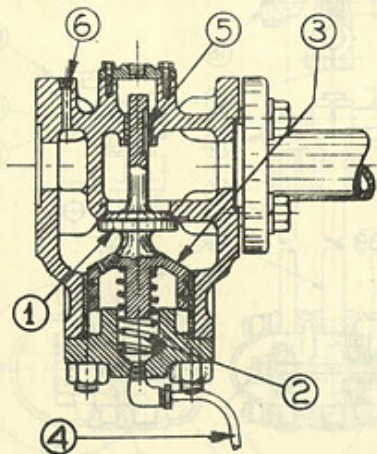

FIG. R-6
The master starting valve, mounted on the after end of the starting air manifold, is shown in Fig. R-6. Air from the receivers is admitted to the lower side of the valve (1) and the pressure against the valve head, together with spring (2) keeps the valve closed. Pressure on both sides of piston (3) is normally balanced by air bleeding through a small hole in the top of the piston. The lower side of the piston is connected by means of tube (4) to the air starting pilot valve in the control unit, described in paragraph 5. When this valve is opened and the pressure below the piston is relieved, the force on top of the piston, the area of which is greater than that of the valve head, overbalances the upward forces and the valve opens, admitting starting air to the manifold. When the pilot valve is closed the pressure below the piston quickly builds up again and closes the valve. Slot (5) in the valve stem vents the manifold when the valve is closed, and is in turn closed by the lowering of the stem when the valve opens. Connection (6) is for the air pressure gauge. The cast iron valve housing is fitted with bronze bushings for the piston and valve stem, and if replaced they should be bored and reamed